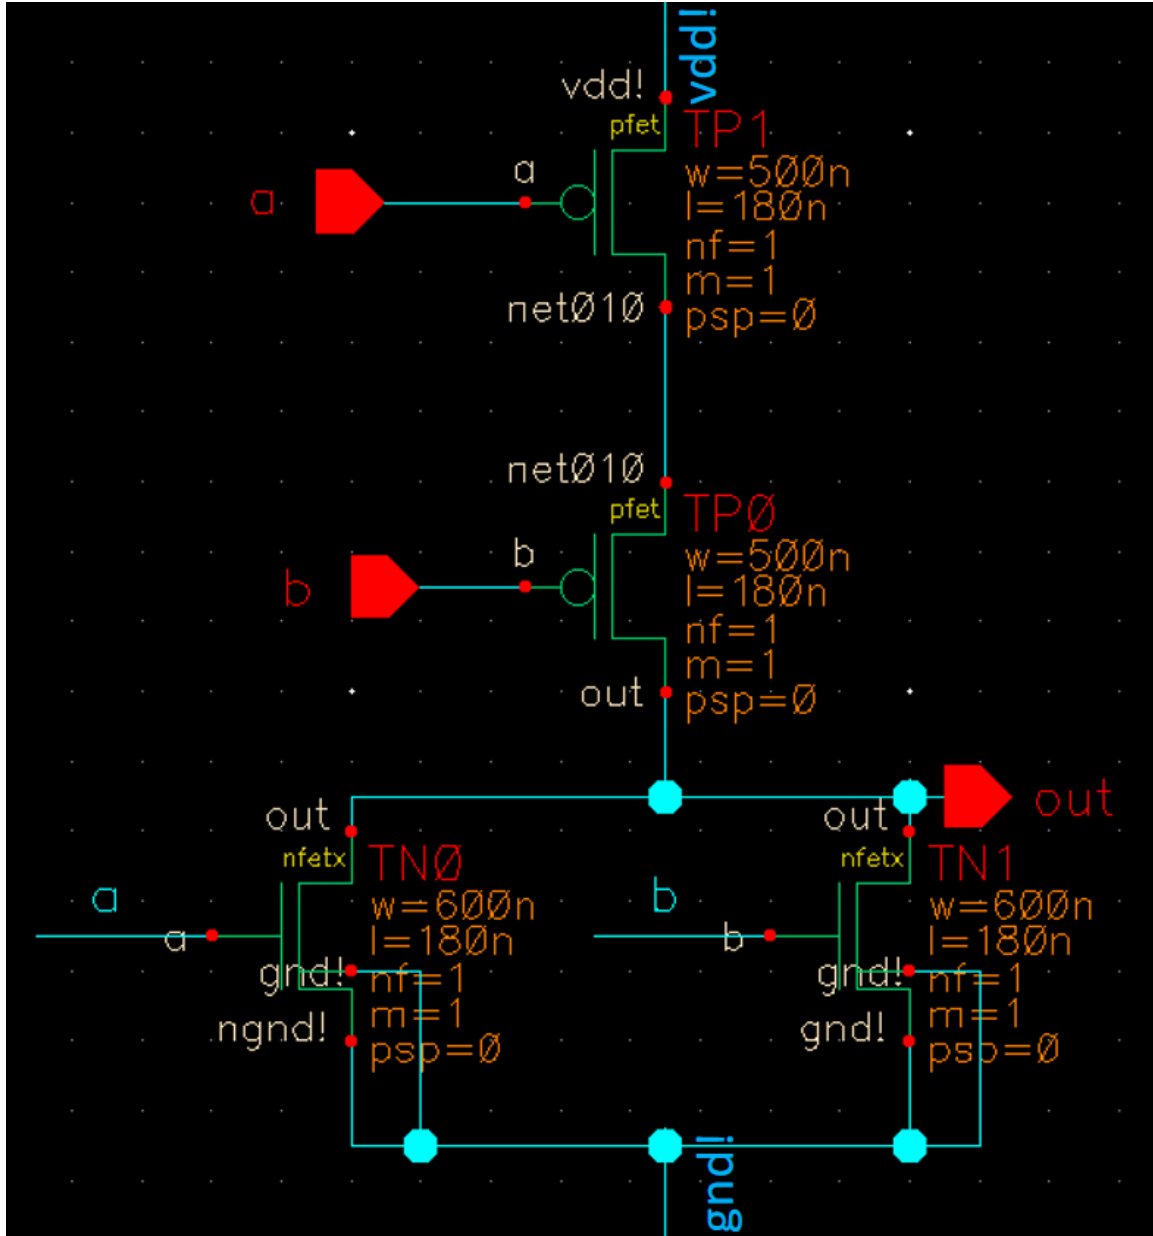

Figure 3: A schematic illustration of the *Nor* gate.
1. Design a two input *Nor* gate, where the inputs are labeled *a* and *b*, and the output is labeled *out*. The schematic of the *Nor* gate is shown in Figure 3.